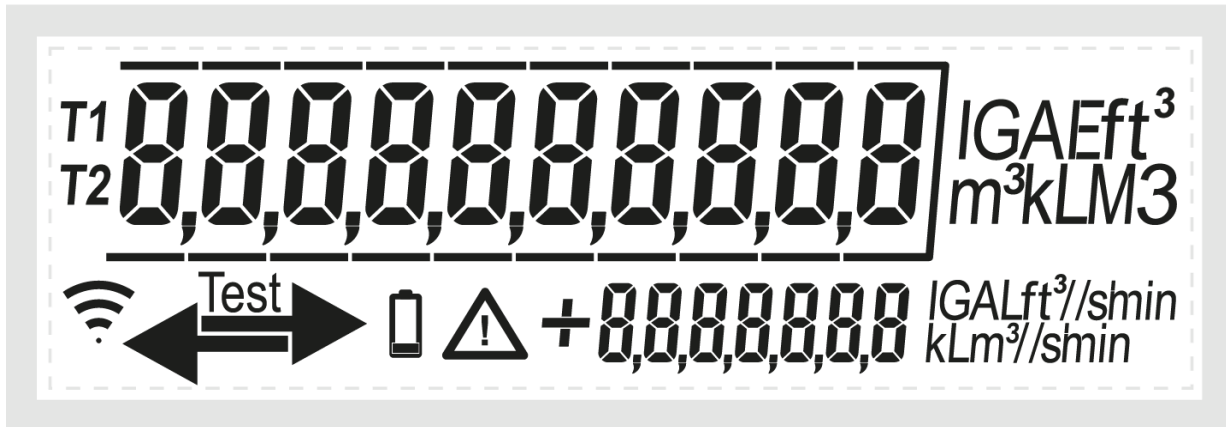

Figure 17: Scheme of all segments visible on sonico® EDGE display
2. All segments on, i.e. all symbols lit up as shown in Figure 17 (min. 1 s)